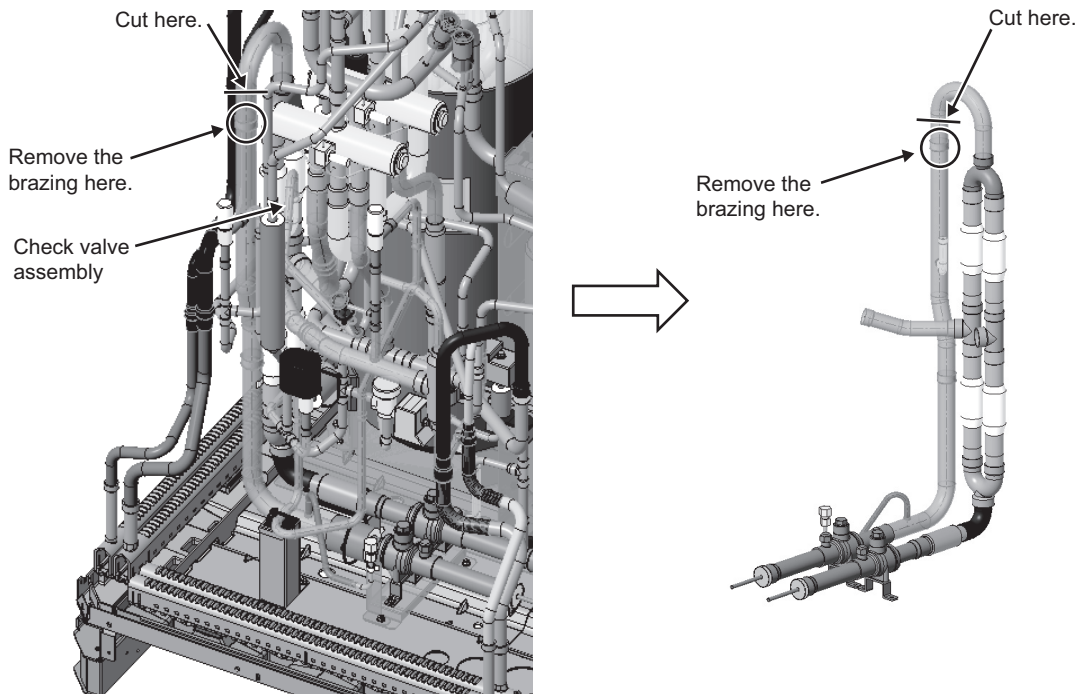

Fig. 6
(4) Cut the upper pipe of the check valve assembly using a pipe cutter or similar tool, as shown in the figure below. After cutting the pipe, remove the brazing from the pipe. (One point to cut and one area to remove brazing: Fig. 6)